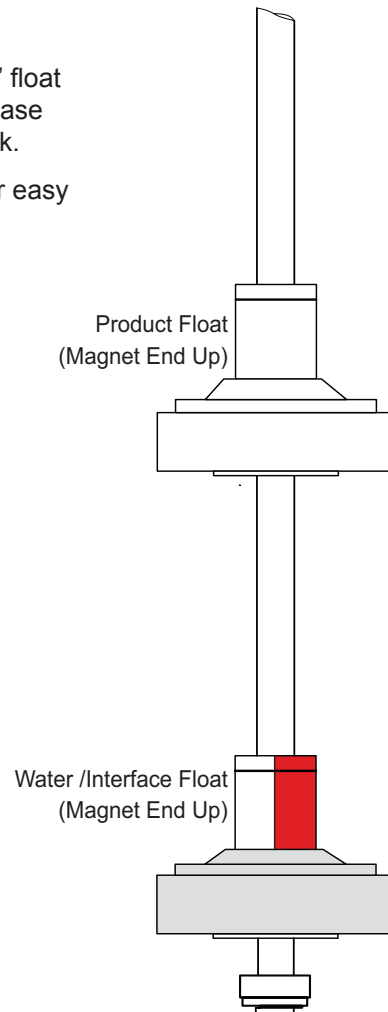

Figure 1: TSP-IGF4P Floats
Figure 1 shows these floats.
- Verify that the color of the water float agrees with the product to be used within the storage tank (Figure 1).